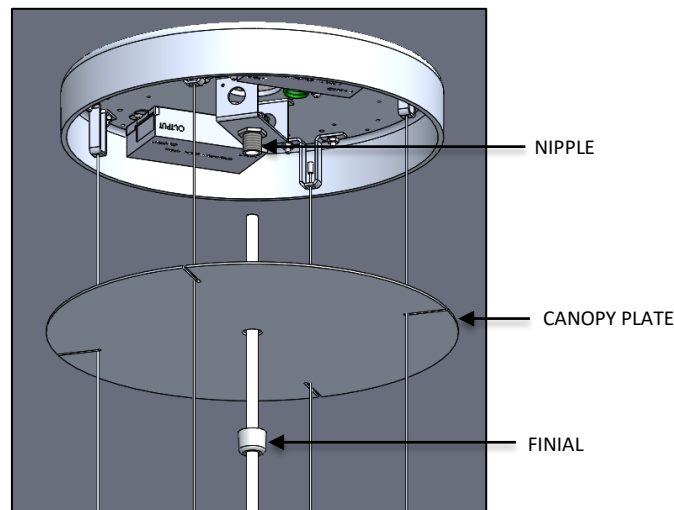

FIG. 26 – CANOPY PLATE AND FINIAL
11. Once the connections are given, raise the CANOPY PLATE and secure it to the CANOPY ASSEMBLY by threading the FINIAL to the NIPPLE (in CANOPY ASSEMBLY) until fully seated as shown in FIG. 26.